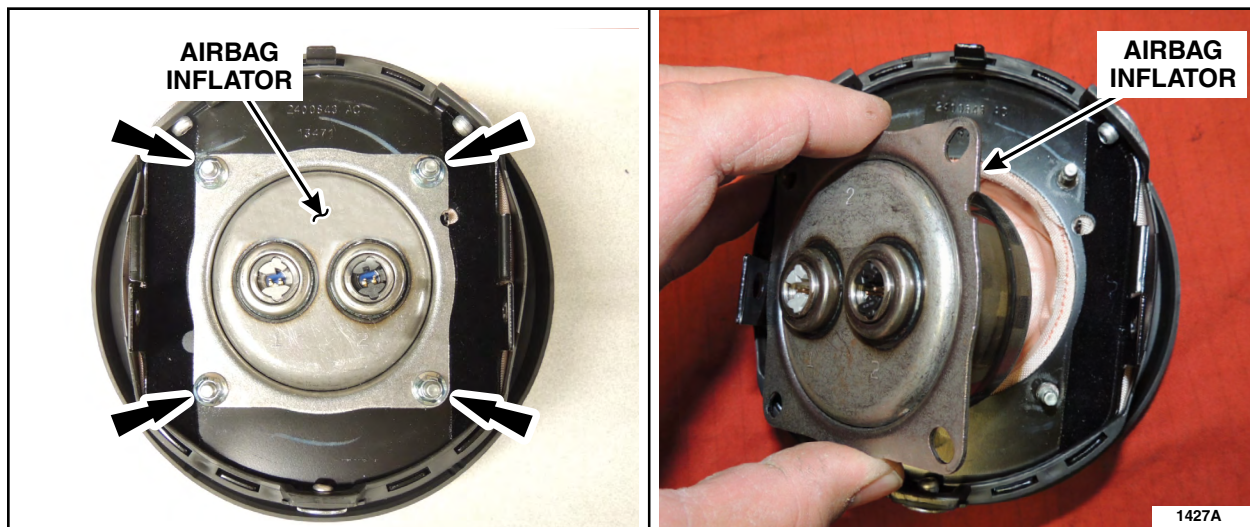

FIGURE 2
3. Remove and discard the four airbag inflator retaining nuts from the driver side airbag. See Figure 2.
Remove the airbag inflator and set aside for return shipping. See Figure 2.